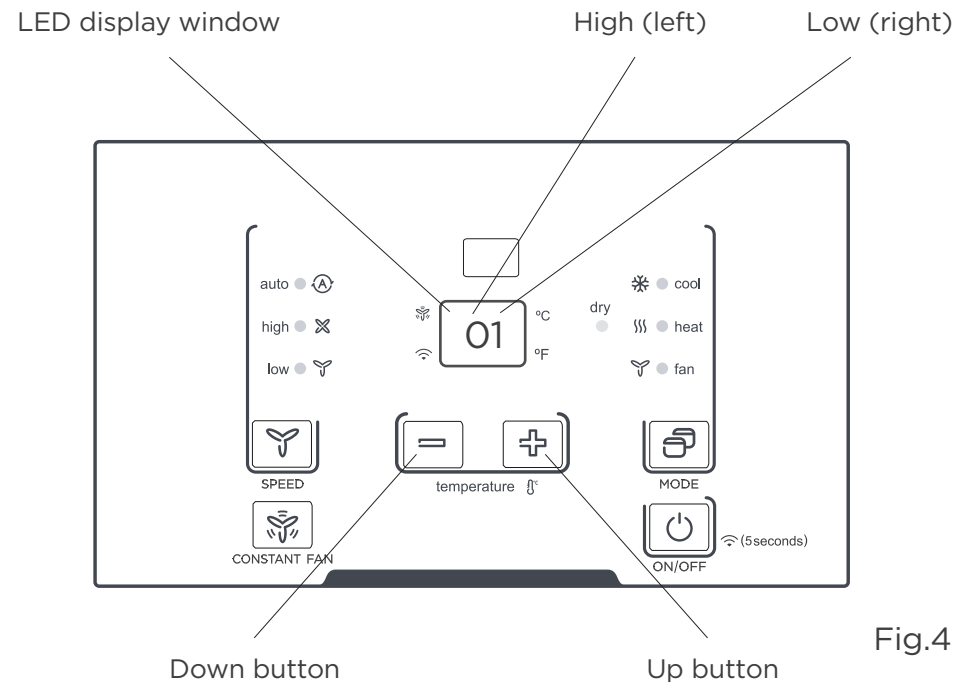

Fig.4
- Press the up and down buttons together for 3 seconds to activate the dip switches configurations by panel control (see Fig.4).
- Display function settings with 2 digitals in LED display window, high (left) for dip switches, low (right) for functions (see Fig.4).